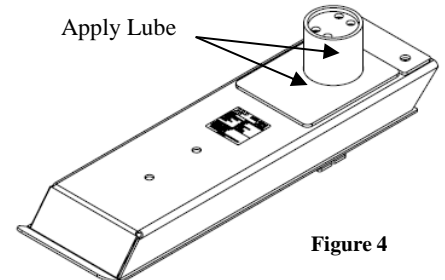

Figure 4
5. Apply Lube on the wear plate (Figure 4).